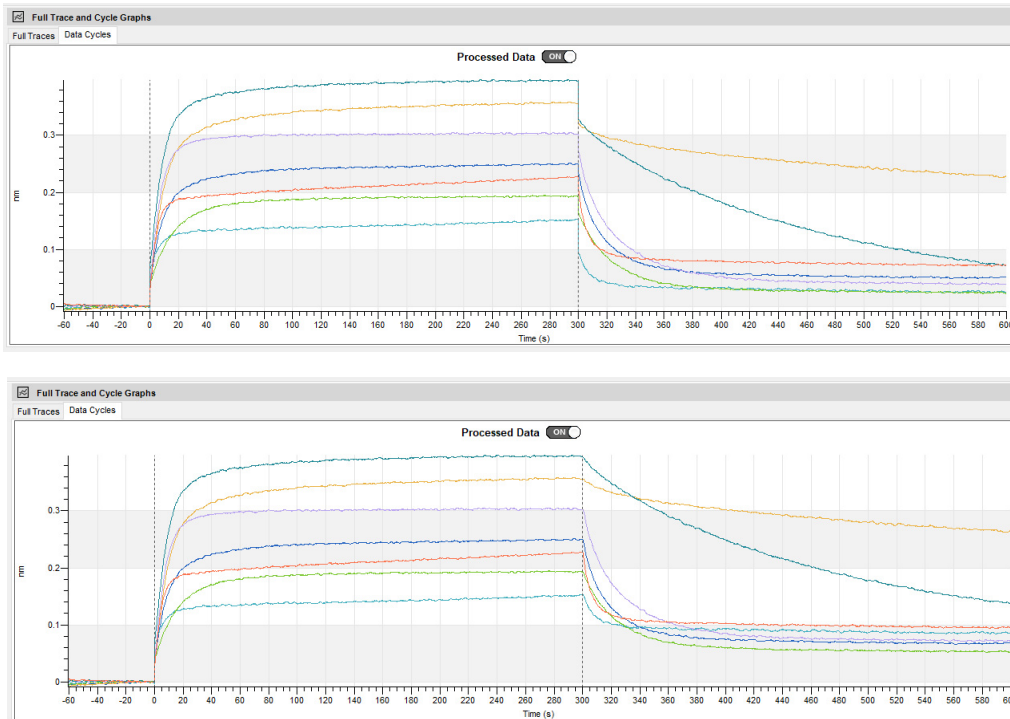

Figure 4-72: Inter-step Correction aligned to Association Step Uncorrected (Top) and Corrected Data (Bottom)
- **Association Step** - Aligns the end of the baseline step on the Y axis with the beginning of the adjacent association step. An example is shown in Figure 4-72.